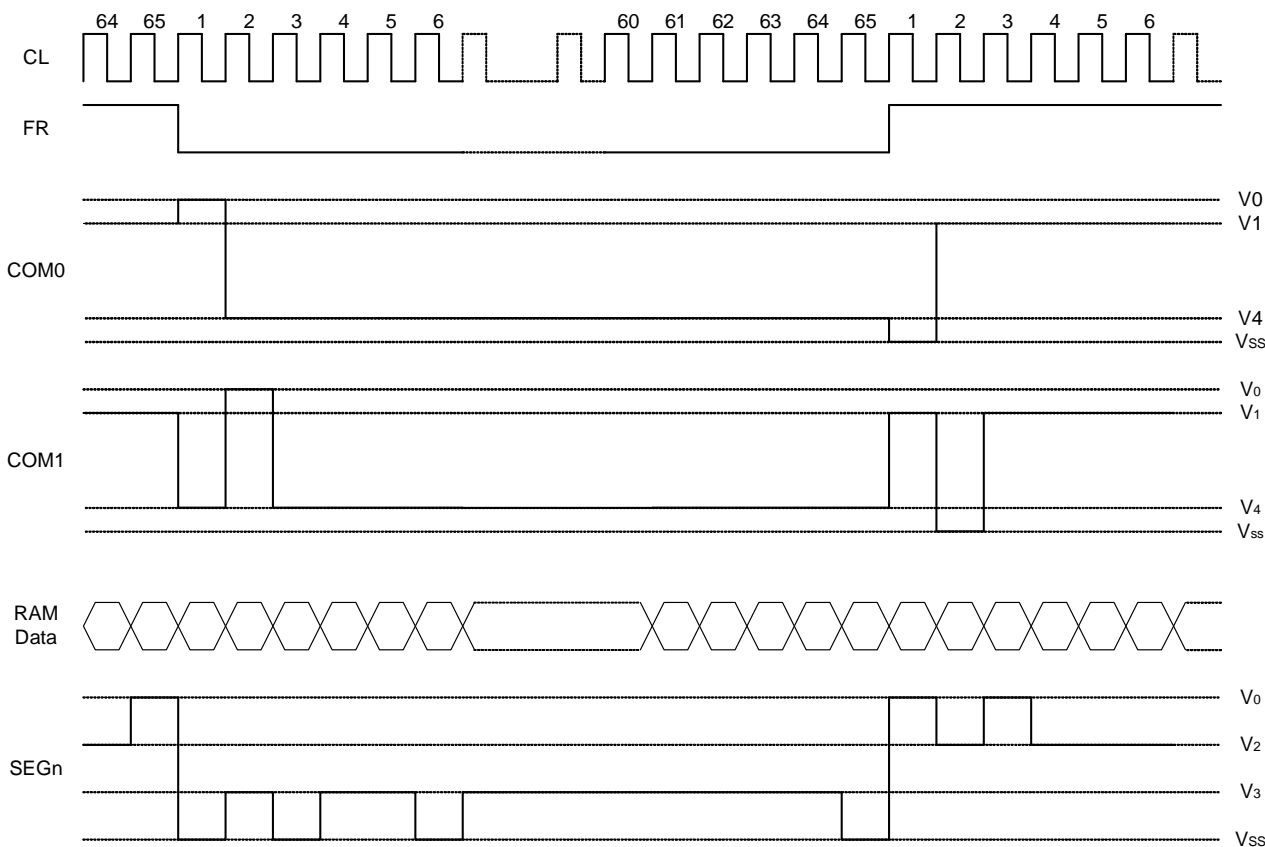

Figure 5
Moreover, the display timing generator circuit generates the common timing and the liquid crystal alternating current signal (FR) from the display clock. It generates a drive wave form using a 2 frame alternating current drive method, as is shown in Figure 5, for the liquid crystal drive circuit.